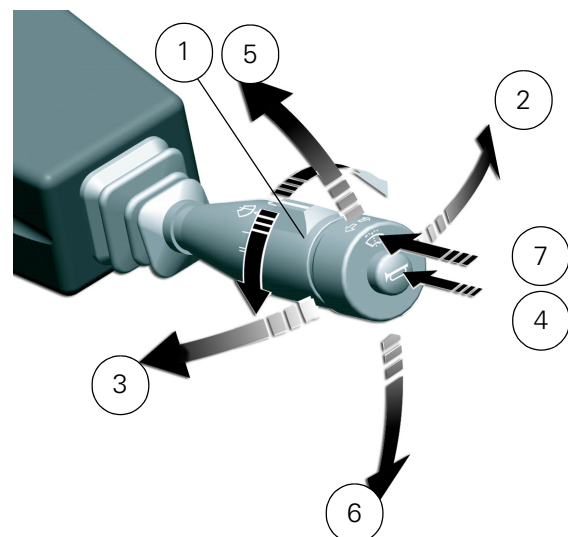

Fig. 4
2. Control unit (see details in Fig. 4).